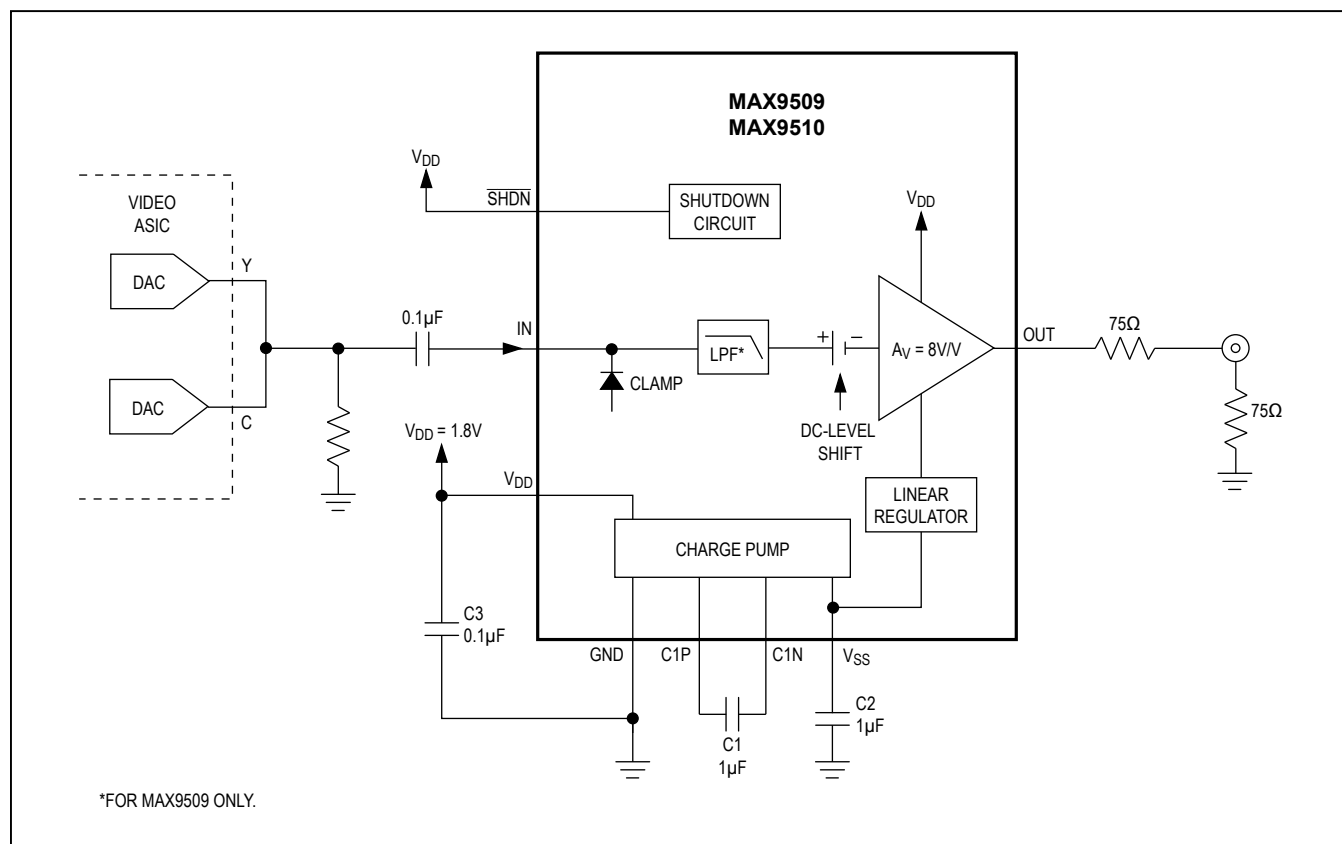

Figure 6. Luma (Y) and chroma (C) signals are added together to create a composite video signal, which is AC-coupled into the MAX9509/MAX9510.
In some applications, the video source generates a signal with a positive DC voltage bias, i.e., the sync tip of the signal is well above ground. Figure 6 shows an example in which the outputs of the luma (Y) DAC and the chroma (C) DAC are connected together. Since the DACs are current-mode, the output currents sum together into the resistor, which converts the resulting current into a voltage representing a composite video signal.